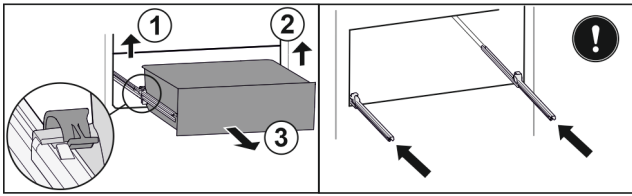

Fig. 153
- ▶ Lift left clamp and simultaneously pull drawer forwards on the left. Fig. 153 (1)
- ▶ Lift right clamp and simultaneously pull drawer forwards on the right. Fig. 153 (2)
- ▶ Remove drawer to the front. Fig. 153 (3)